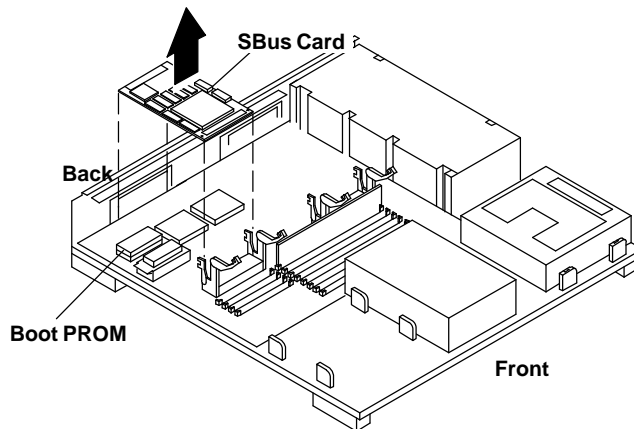

Figure 3-7. Removing the SBus card
1. Refer to Figure 3-7. If you have an SBus card covering the boot PROM, remove it and set it aside on the antistatic mat.